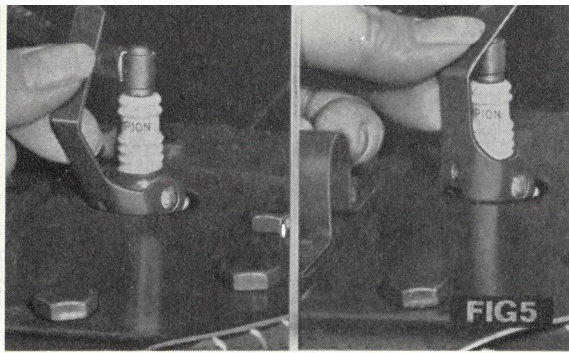

FIG5
1. Ensure that the petrol tank and engine oil sump have been filled with the correct grade of their respective fuels as referred to on the previous page and also note that the air filter needs attention from time to time in accordance with the instructions printed on page 24. Make sure that the shorting strip (fig. 5) is clear of the sparking plug.